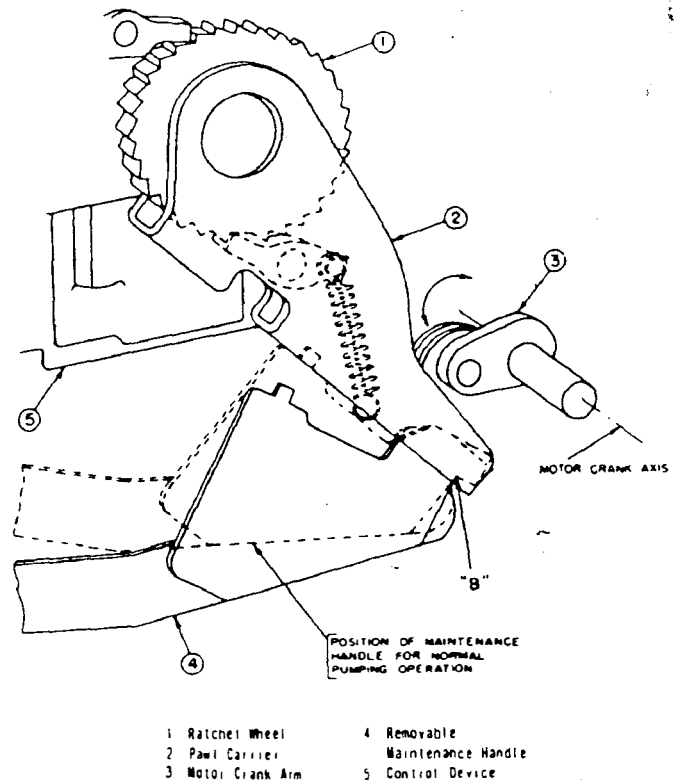

Fig. 3 — Method of Applying Maintenance Handle for Charging Closing Springs
Electrically operated circuit breakers may be charged manually by a removable maintenance handle (4, Fig. 3) for emergency operation.
NOTE: The motor crank arm (3, Fig. 3) will stop occasionally in such a position as to prevent charging the springs with the handle. Should this happen, the motor crank arm must be rotated manually by using a screwdriver or similar tool to rotate the crank arm a sufficient amount so that the springs may be charged with the handle as described above.
4. Insert the maintenance handle in the ratchet carrier and operate the handle to slowly close the contacts. (See Fig. 3 and "Emergency Operation".)